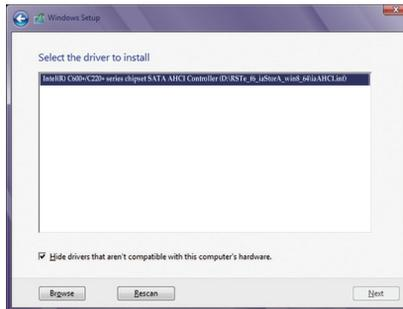

Figure 1
When a screen as shown in Figure 1 appears, select **Intel(R) C600+/C220+ series SATA AHCI Controller (D:\\RSTe_f6_iaStorA_win8_64\\iaAHCI.inf)** and click **Next** to load the driver and continue the OS installation.